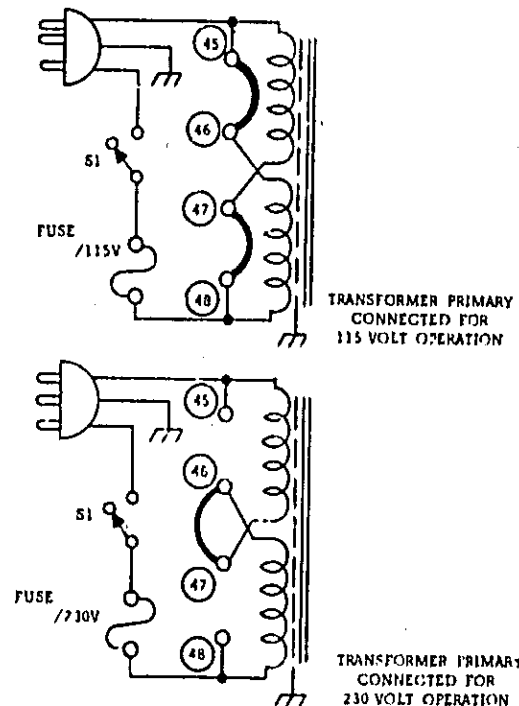

Figure 2-3. Primary Connections
### 2-17 CONNECTIONS FOR 230 VOLT OPERATION (Figure 2-3)
- b. Break the printed wiring between 45 and 46 and also between 47 and 48 on the printed circuit board. These are shown in Figure 2-3, and are labeled on printed side of the circuit board.